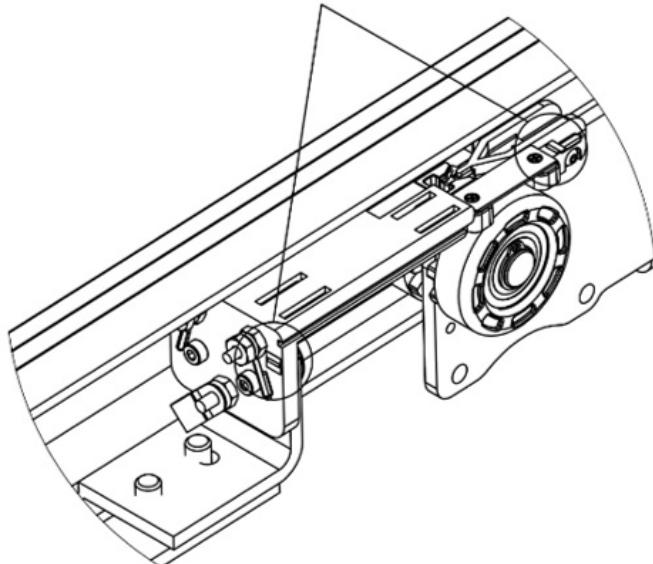

Figure 52: **Make Sure Polarity Aligns by Matching the Positive/Negative Stickers**
- Make sure the charging contacts on the gantry face the power supply, and that the positive/negative stickers on the endstop charger and gantry charging contacts align (Figure 52).